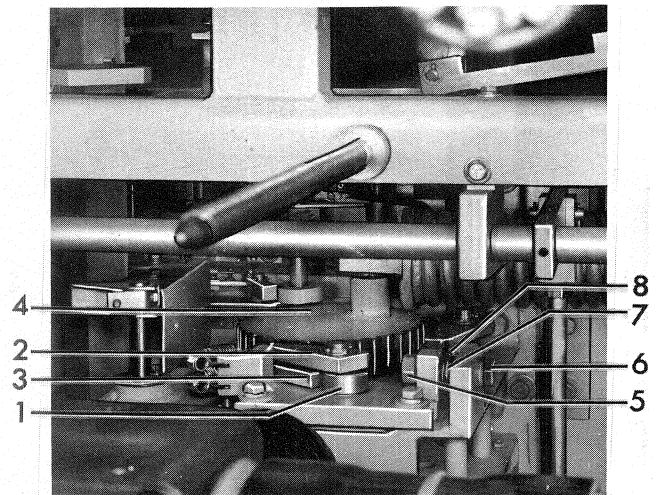

Figure 14. (8039310) Top of Mechanism
The manual driving pawl (1) Fig. 24 must advance the ratchet wheel (2) sufficiently to allow the latching pawl (3) Fig. 14 to fall into the ratchet teeth. Since the latching pawl is an integral part of the motor mount, the entire mounting must be moved to allow a clearance between the latching pawl and the ratchet tooth of .020" to .040" when the driving pawl is full advanced and the maximum load of the closing spring is on the ratchet.
After checking the pawl clearance and determining the amount of movement required in the motor mount, the check nut (5) Fig. 14 and bolt (6) can be removed and the necessary shim washers (7) added to or removed from the assembly. Replace the bolt and hand tighten, then turn approximately 1/2 turn with a wrench. Hand wind the closing spring and again check the clearance with the closing spring load applied. Secure the bolt (6) by replacing nut (5) on the assembly.
**NOTE:** If it becomes necessary to clean the bearings in alcohol (shellac thinner), be sure the alcohol is perfectly clean, and do not allow the bearings to remain in the alcohol more than a few hours. If it is desirable to leave the bearings in the alcohol for a longer time, an inhibited alcohol such as is used for antifreeze should be used. Even then the bearings should be removed from the alcohol within twenty-four hours. Precautions against the toxic effects of the alcohol must be exercised by wearing rubber gloves and by using the alcohol in a well ventilated room; excessive exposure to the fumes is sometimes unpleasant to personnel. Washing the bearings in the light oil and draining should follow immediately, then apply the lubricant. Bearings that are pressed into the frame or other members such as the bearings for eccentric (1) Fig. 14, cam shaft bearings and trip and close shaft bearings should not be removed. After removing the shaft and inner race the bearing can usually be cleaned satisfactorily with petroleum solvent or a similar cleaner and a stiff brush. Follow the procedure outlined above using a light machine oil and G-E lubricant D50H15 before reassembling the inner race and shaft.